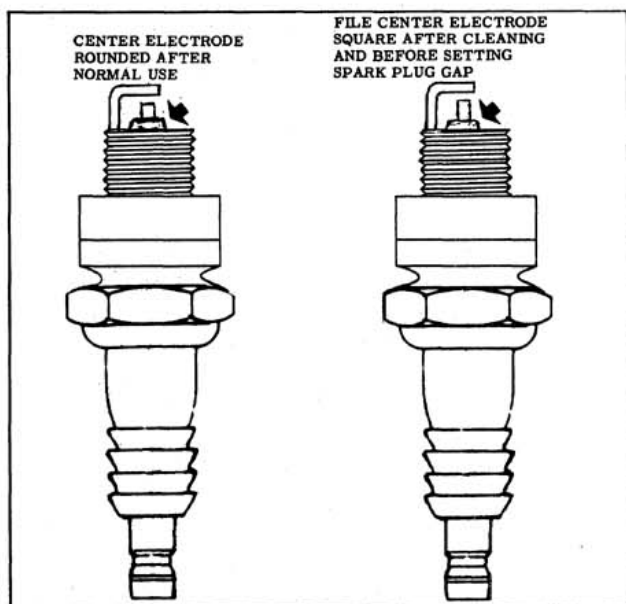

Fig. 5-1 Filing Center Electrode
3. Clean all serviceable plugs with an abrasive type cleaner. File center electrode flat. (Fig. 5-1) Do not file center electrode on new plugs.